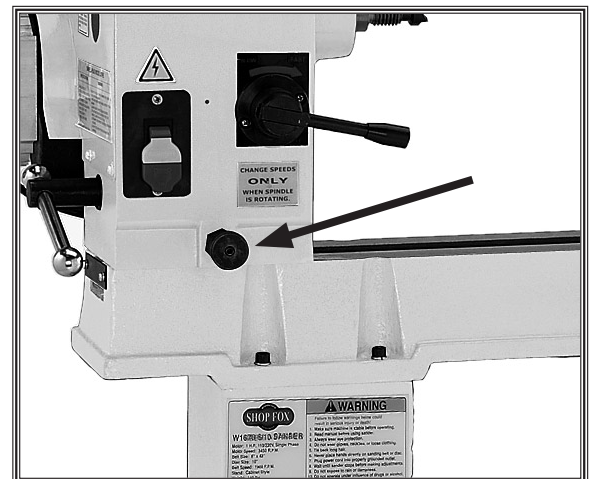

Figure 14. Headstock rotation locking pin.
3. Pull out the headstock rotation locking pin (see **Figure 14**), and rotate the headstock in place.